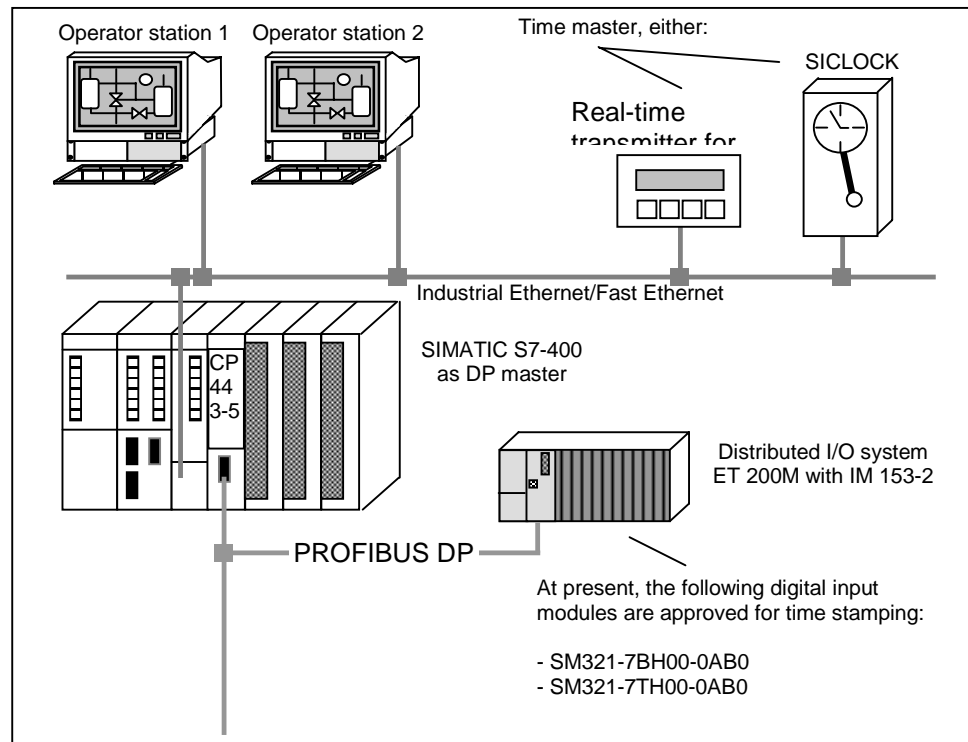

Figure 4-19 Example of Configuring Time Stamping for Signal Changes
- Time master for maintaining a highly accurate timebase (see Figure 4-19)
- SM 321 (order number see Figure 4-19) module for acquiring the process signal.